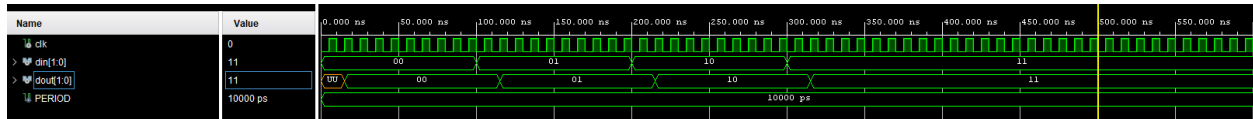

Figure 7: Waveform in Vivado
- You will now see the waveform window similar to Figure 7. You might need to zoom out (magnifier minus button) to see what is happening properly.